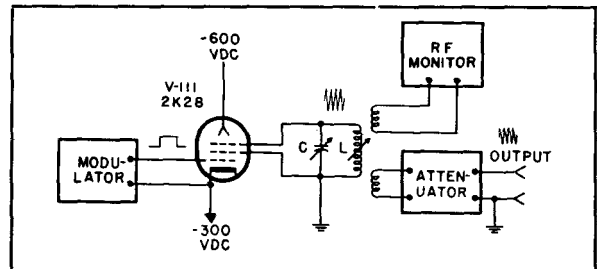
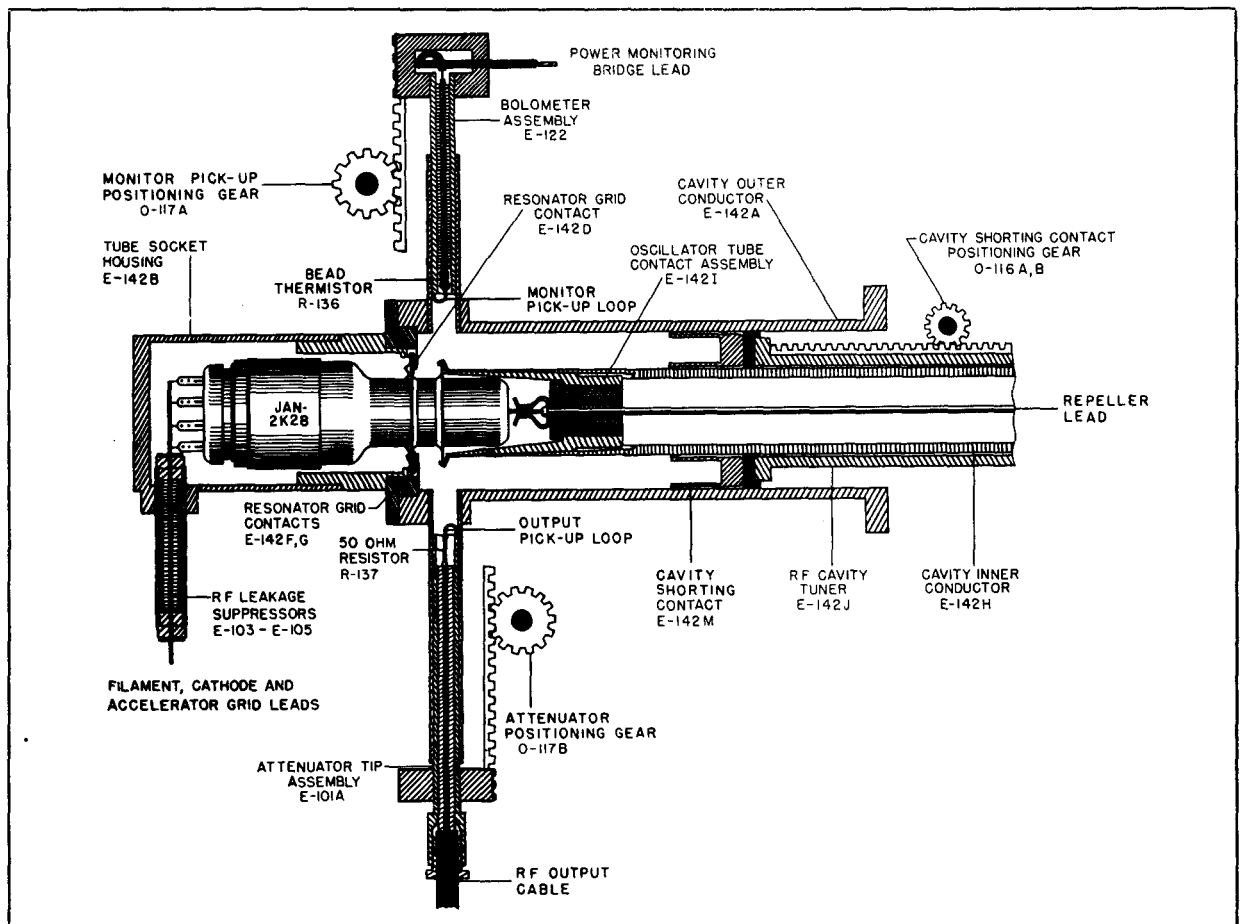

Figure 3-2. Equivalent Oscillator Circuit
Figure 3-3. Cutaway View of Oscillator
the external load. The oscillator circuit is that of a velocity-modulation tube operating with an external resonant cavity. The tube used is a type JAN-2K28 reflex klystron, the name "reflex" being derived from the fact that a single set of grids performs the dual function of bunching and then catching the electron stream. An equivalent circuit of the oscillator is shown schematically in figure 3-2.
The resonant circuit L and C in figure 3-2 connects to two tube electrodes known as resonator grids. Physically, the resonator grids of the tube are separated from the cathode by an accelerator grid which accelerates the electrons drawn from the cathode. The repeller electrode on the
Assuming that the circuit of figure 3-2 is oscillating, its operation can be considered as follows: the tank circuit and resonator grids are highly positive with respect to the cathode and the accelerator grid has been driven positive with respect to the cathode by the pulse from the Modulator so that electrons are drawn towards the positive resonator grids.
A cut-away view of the actual oscillator circuit used in the signal generator is shown in figure 3-3. The tuned circuit shown in the equivalent oscillator circuit of figure 3-2 is a resonant cavity which is tuned by changing the position of the cavity shorting contact. The output power is coupled to the external load by means of a pick-up loop. An identical loop is provided to supply power to the output monitor so that the amplitude of oscillation and thus the power applied to the output attenuator can be known at all times.
a. RF OUTPUT.-The rf power output from the oscillator is obtained from the resonant cavity by means of a pick-up loop located in a small section of waveguide which opens into the resonant cavity (figure 3-3). The cross-sectional area of the waveguide is small enough so that energy is usually considered not to be propagated directly down the waveguide; that is, the waveguide is smaller than the cut-off size of waveguide for these frequencies. However, a small amount of energy is propagated down the guide and this energy decreases exponentially as the length of the guide is traversed. Since the output power in decibels is proportional to the square of the voltage obtained, it is possible to move the pick-up in the waveguide by means of a gear system and to calibrate the gear system linearly in decibels of output power. This has been done in the TS-403/U, providing a directly calibrated power output system.
b. RF MONITOR.-In order that the power applied to the external load can be known, it is necessary that the current or voltage applied to the load (as well as the load itself) be known. In the TS-403/U, the fields within the cavity are monitored by a thermistor bridge circuit. A pick-up loop and piston type attenuator (figure 3-3) similar to the output system are used to feed a small amount of power from the resonant cavity to a bead thermistor R-136 which is part of the bridge circuit. The bridge is balanced for dc conditions and when the rf power from the resonant cavity is applied to the circuit, the bridge becomes unbalanced, the amount of unbalance being indicated by a dc microammeter connected across the bridge.